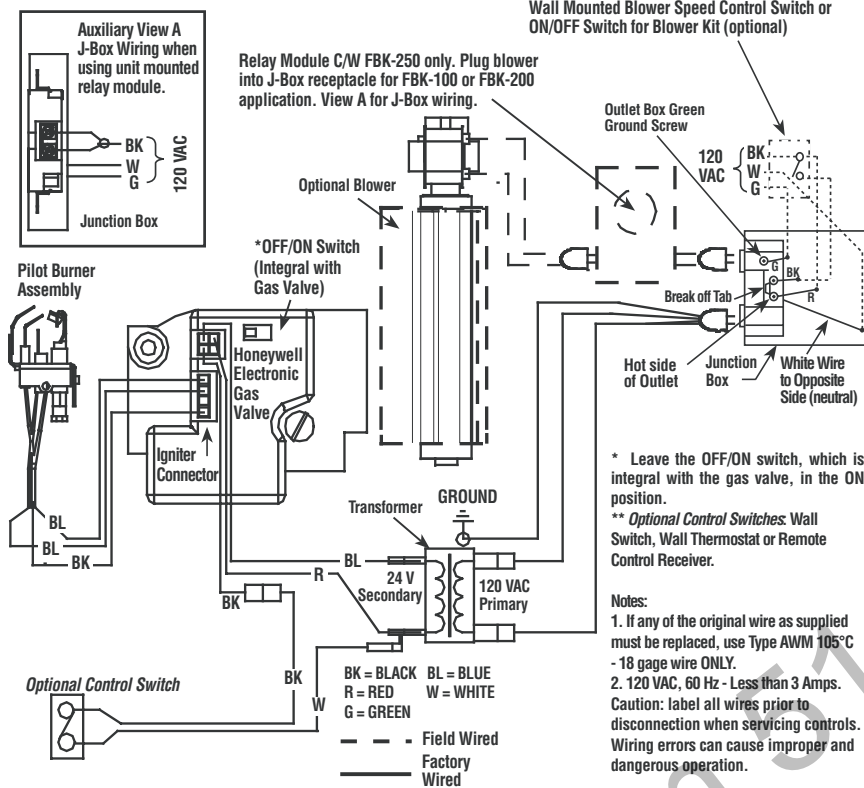

Figure 47
### B. Electronic Wiring (See Figure 47) –
3. Connect the power supply wires (including the ground supply wire) as shown in **Figure 47**. (If the field-provided J-box/outlet box is being used, all of the outlet box wiring must be field-provided).
**Note:** The gas valve-mounted ON/OFF switch is shown in **Figure 47**. It is integral with the gas valve and should be set to the ON position.
### FBK-100, FBK-200 and FBK250 Kits (See Figure 47) -
Ground supply lead must be connected to the wire attached to the green ground screw located on the outlet box. See Figure 47. Failure to do so will result in a potential safety hazard. The appliance must be electrically grounded in accordance with local codes or, in the absence of local codes, the National Electrical Code, ANSI/NFPA 70-latest edition. (In Canada, the current CSA C22-1 Canadian Electrical Code).